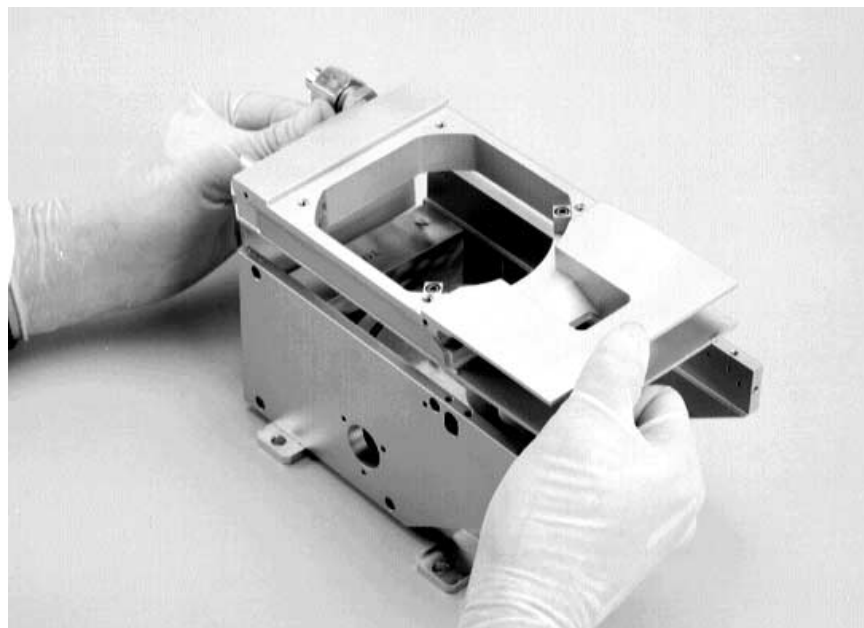

Figure 5-13. Removing the coil housing
Step 16: You should now be able to lift the coil housing free of the pole pieces, as shown in Figure 5-13. If not, further loosen the bottom row of screws securing one of the pole pieces to the source's base plate.